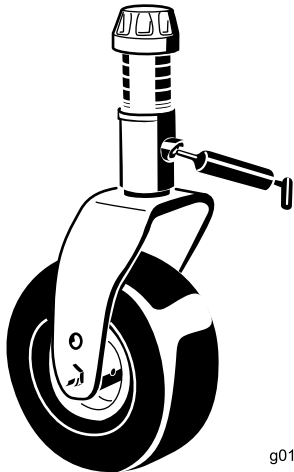

Figure 46
- 1 caster-fork-shaft bushing (Figure 46)